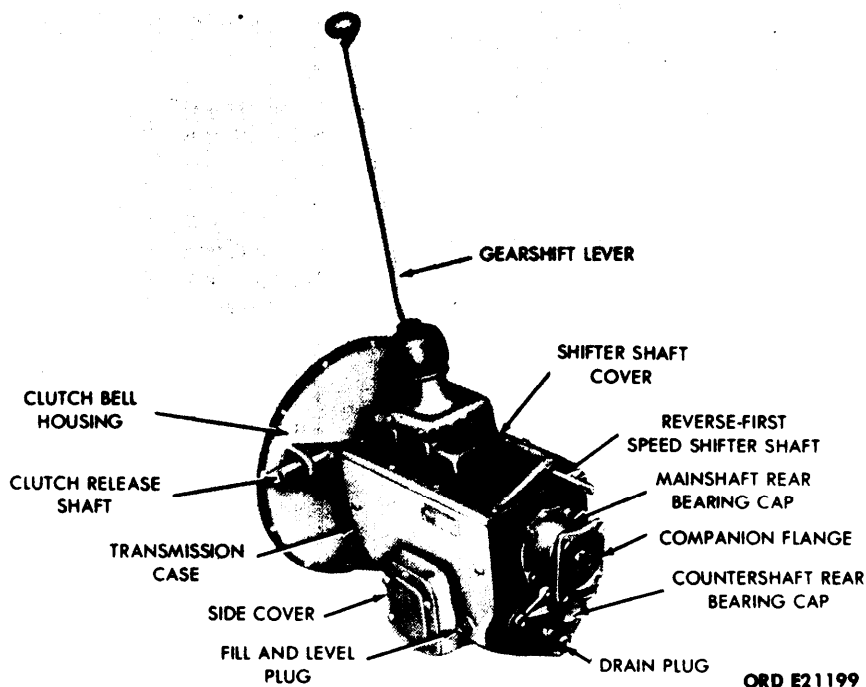
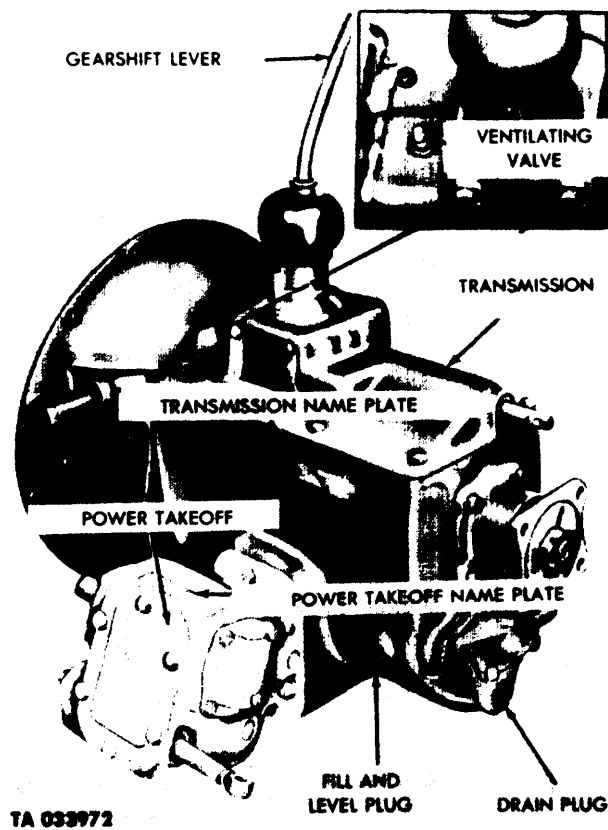
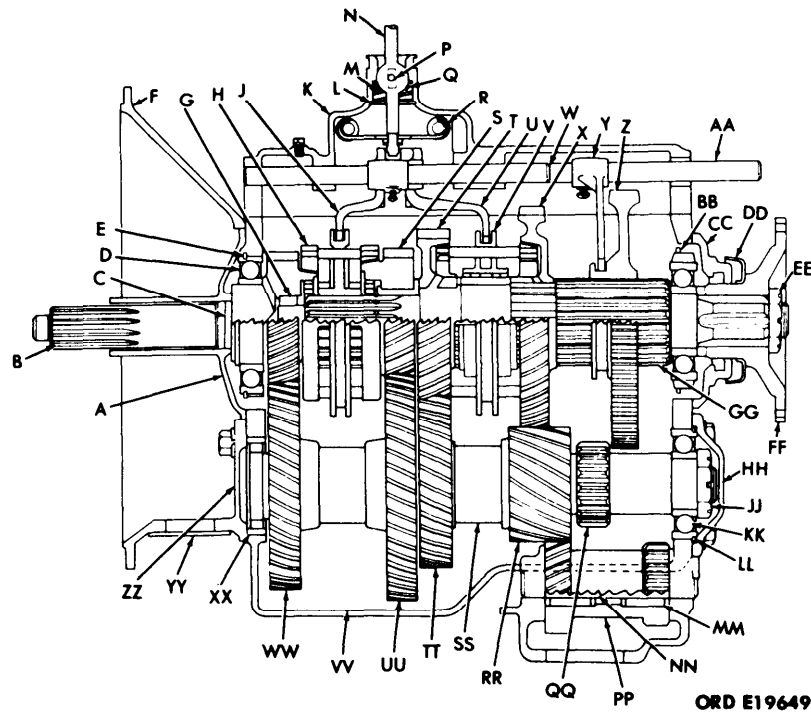

Figure 3-1. Transmission Models 3052 and 3053A - Exterior Components.
Figure 3-2. Transmission Models 3052 and 3053A Equipped With a Power Takeoff.
Figure 3-3. Transmission Model 3053A Sectional View (Also Typical of Model 3052).
a. General. Transmission model 3052, shown in figure 3-1, is utilized on the 2½-ton, 6x6, M44 series vehicles using a gas engine, not equipped with a front winch. This same transmission is used with vehicles equipped with a front winch. The transmission has a power takeoff mounted on the left side (fig. 3-2) which is used to drive the winch. The construction of the transmission is illustrated in figures 3-3 to 3-11.
Legend for fig. 3-3: